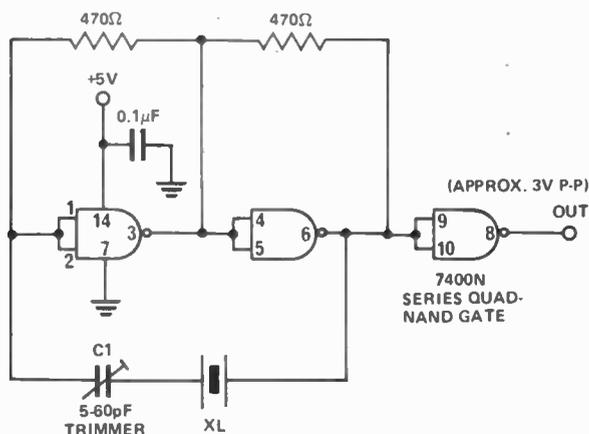

Fig.4. Reliable TTL crystal oscillator.
TTL IC can be used in crystal oscillator circuits but many published circuits have poor starting performance or suffer from non-repeatability owing to wide parameter spreads in IC's. The circuit in Fig. 4. is by K1PLP from QST, Feb. 1974 (5) and is after Weggeman (6). This circuit has been tried by the writer over the range 1 MHz to 18 MHz and can be recommended. It is a series mode oscillator and suits AT-cut crystals. The output is about 3 volts peak to peak, square wave up to about 5 MHz beyond which it becomes